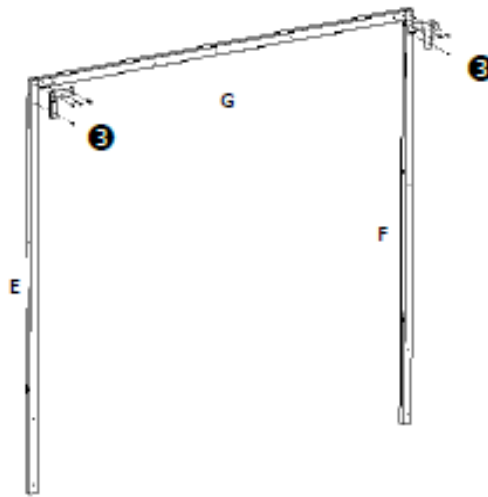

Figure 4: Rear Screen Frame Assembly
2. Lay out three posts of rear screen frame on the ground according to Figure 4.